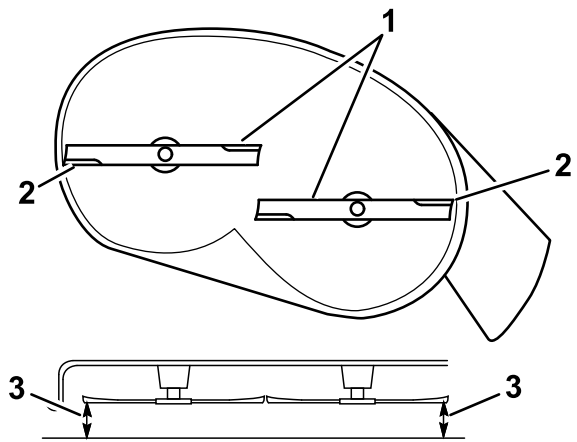
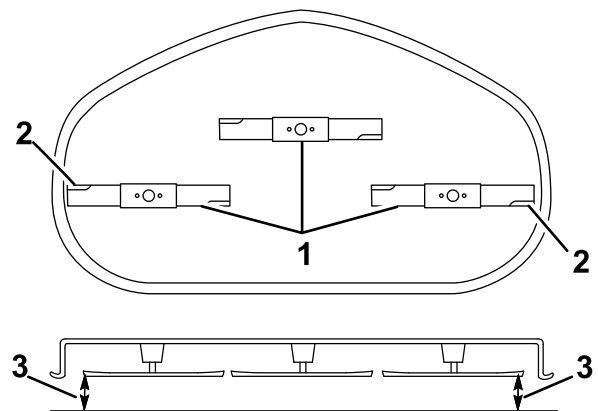

Figure 64
Figure 65
5. Measure between the outside cutting edges and the flat surface (Figure 64 and Figure 65).